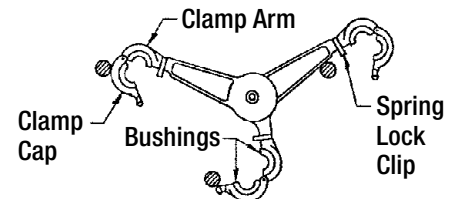

Figure 1
2. Position the spacer damper with the conductor, as illustrated in Figure 1.